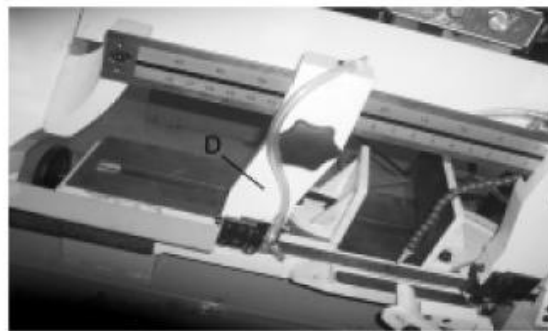

Fig.13
5. Make sure the blade guide arm (D) Fig. 13 is adjusted as close as possible to the workpiece.